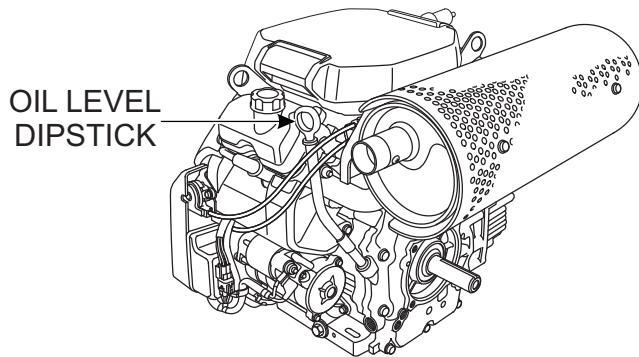

Figure 12. Engine Oil Dipstick Removal
2. Remove the dipstick from its holder (Figure 12) and wipe clean.